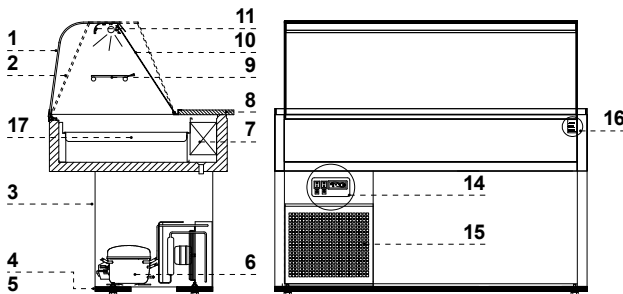

Fig.1 Construction of the „Kasia” device
- The device should be placed on an even and on a sufficiently hard base, and then level it with the help of levelling feet. In case of moving devices it is necessary to immobilise wheels in order to prevent their movement during exploitation Fig.1